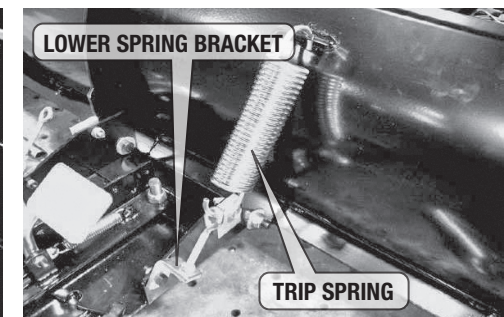

fig. 4
- 1 Install lower spring brackets as shown in figure 4. Brackets should be snug, but still allow for rotation on the bolt.
- 3 Install trip spring to lower spring bracket and to upper blade mount as shown in figure 4.